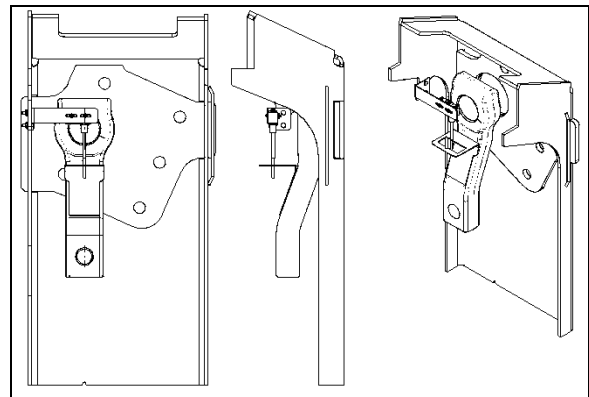

FIGURE 16: TAG AXLE UNLOADING SWITCH ADJUSTMENT 14061
2. Line up switch lever with reference to the bracket center (Refer to figure 16).